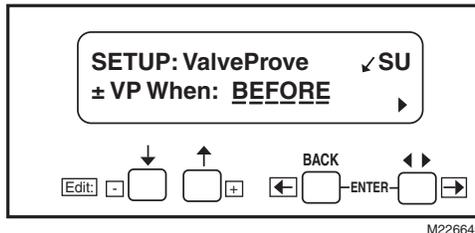

Fig. 24. SETUP: Valve Prove screen.
- 12. "Getting Data" will be momentarily displayed, followed by the screen shown in Fig. 24.